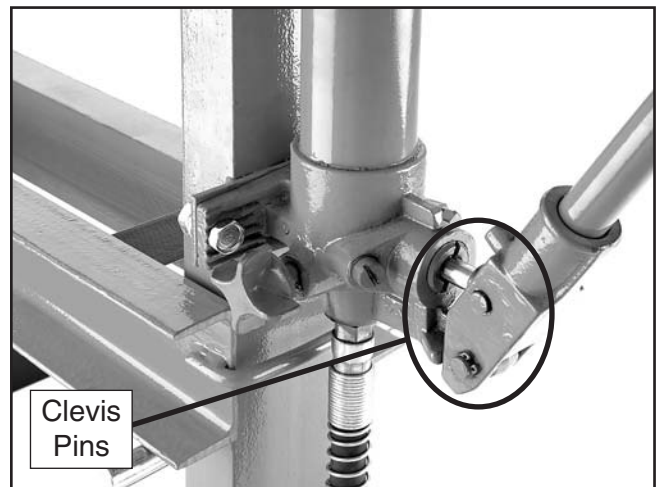

Figure 25. Clevis pins.
1. Using a hand-held oil gun, apply one or two drops of any standard machine oil or motor oil to all clevis pins, as shown in **Figure 25**.